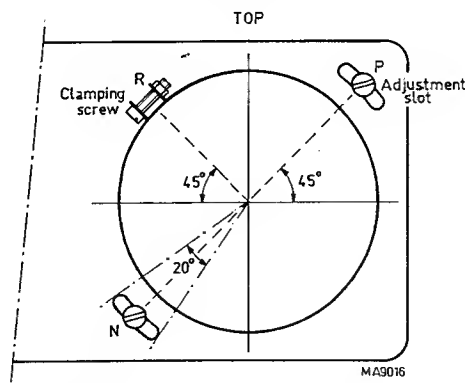

Fig. 2.10. Cathode-ray tube positioning
- remove screws N and P behind front panel (see Fig. 2.10.).
- slacken clamping screw R in bracket around tube fuse (Fig. 2.10.).